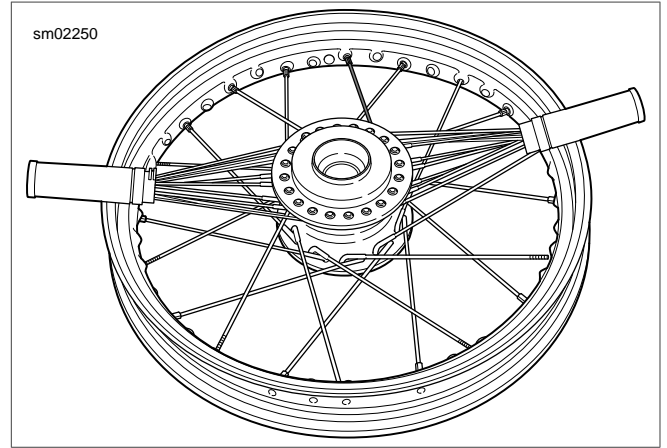

Figure 2-35. Beginning Spoke: Bottom Flange Inner
- a. See Figure 2-35. Each inner spoke (long head) crosses four outer spokes (short head).